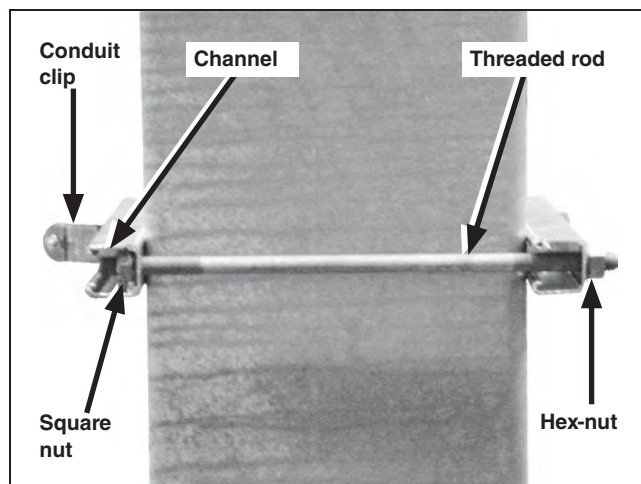

Figure 36. Install the conduit hangers.
- Align the brackets with the marks, and bolt them to the pedestal with the two  $\frac{5}{8}$ -inch threaded rods, square nuts, hex nuts, and washers provided. See Figure 36.